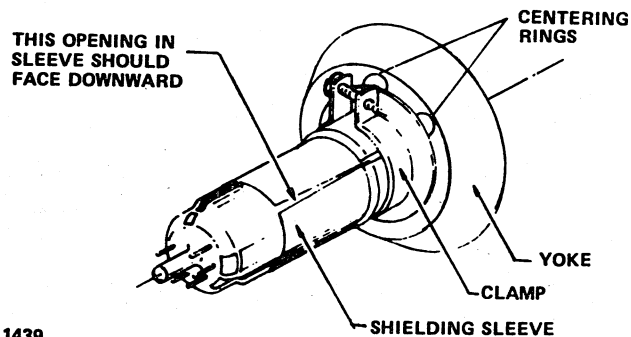

Figure 6-21. Shielding Sleeve Positioning
10. If the raster of H characters is tilted, rotate the yoke until it is straight. Centering is performed by rotating the centering rings located on the rear of the yoke assembly (figure 6-21).
12. Check that the shielding sleeve between the yoke and the neck of the CRT is in place approximately as shown in figure 6-21. If the shielding sleeve is not correctly positioned, the left side of screen is distorted while the right side is not, or the right side of the screen is distorted while the left is not. Pushing the shielding sleeve inward toward the yoke has the effect of distorting the left portion of the screen; if pushed all the way forward, the entire left half of the screen is blacked out.